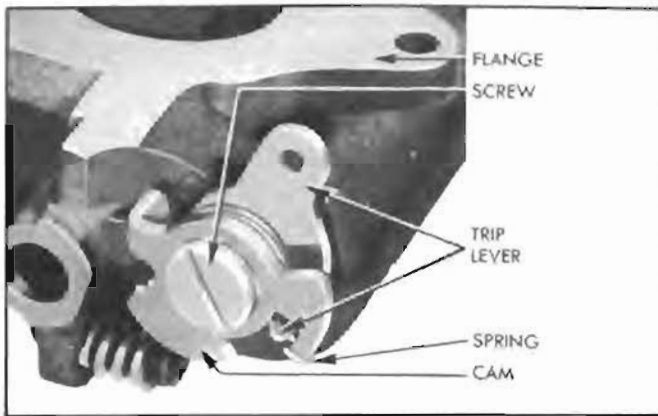

Figure 3-38—Fast Idle Cam, Spring, and Trip Lever
2. Place fast idle cam and cam trip lever over fast idle screw so that tongue on trip lever is held in the notch in cam by the hooked end of cam spring, then install parts on body flange. See figure 3-38.